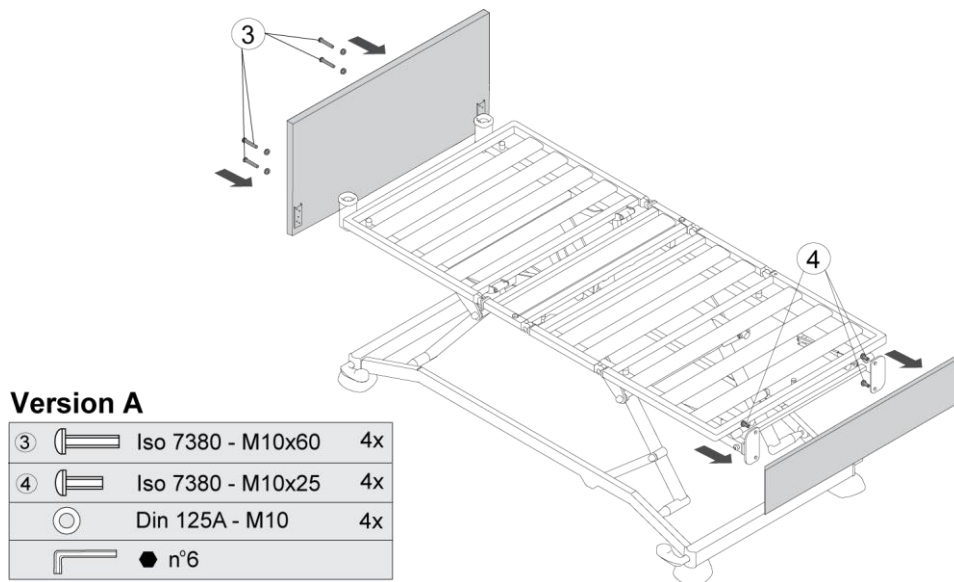

Figure 5.7: Assembly of the head and foot panel Soft-version A
- Assemble the head and foot panel by using the bolts shown in fig 5.7